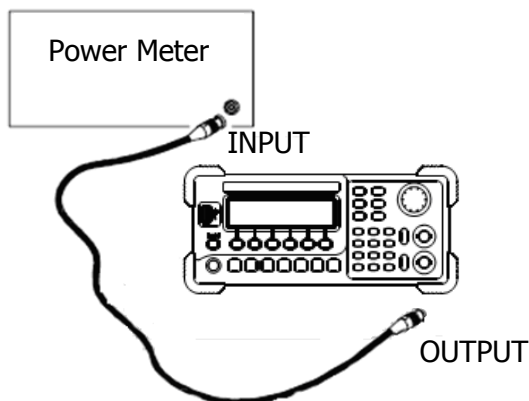

Figure 3-11 Output Flatness Adjustment Connection
1. Connect the power meter and signal generator as shown in Figure 3-11.